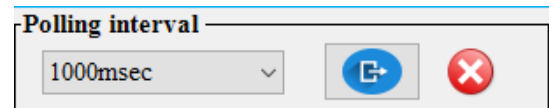

Figure 40
- To set polling interval user first has to select one polling interval and then click on  button. If it saved correctly then  right check will be appear next to submit button as shown in Figure 40. In case of error,  wrong check will appear.